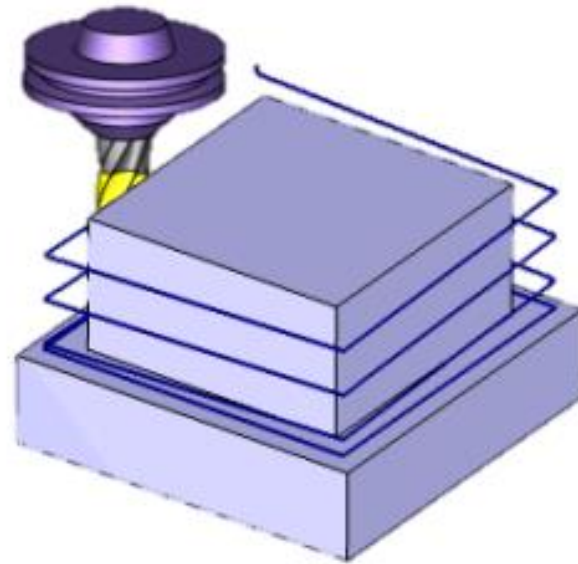

Figure 3.4: Example output of the tool path simulation
- Figure 3.4 illustrates the simulation of the tool path of an NC milling machine generated by CAM software after the part geometry has been already created by the use of CAD software